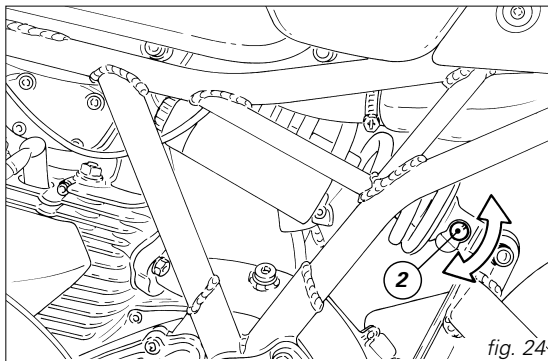

fig. 24
The adjuster (2, fig. 24) on the left of the connection holding the shock absorber to the swingarm controls rebound damping.
- Rebound damping adjuster (2, fig. 24): 8 clicks.
- Rebound damping adjuster (2, fig. 24): 6 clicks.